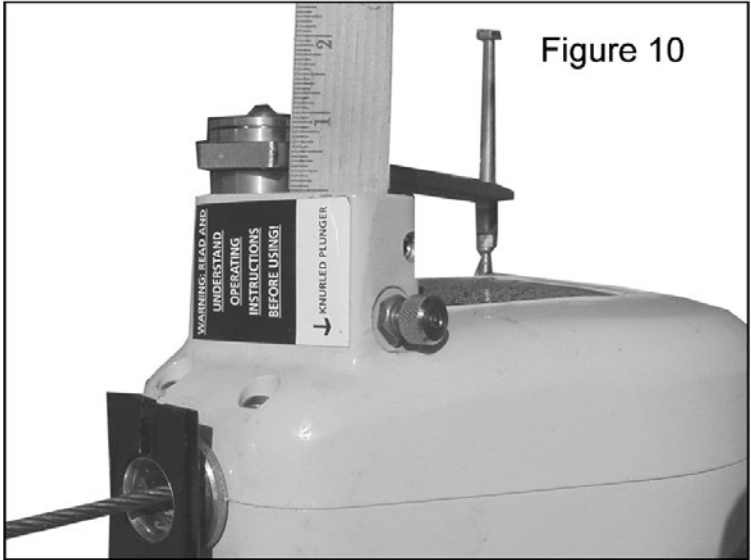

Figure 10
3. Once the base of the handle is protruding 1" (instead of 1 1/2") from the housing (Figure 10), the unit is in winch mode, and now can raise and lower.